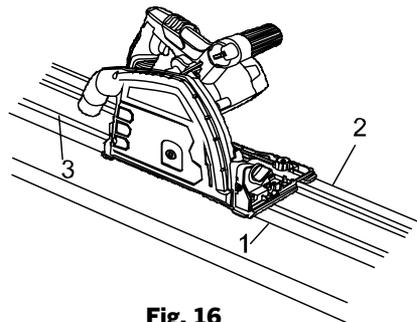

**Fig. 14**
3. Place the guide track (2) on the workpiece. Line up cutting edge of track with the cut line (1) (Fig 14).